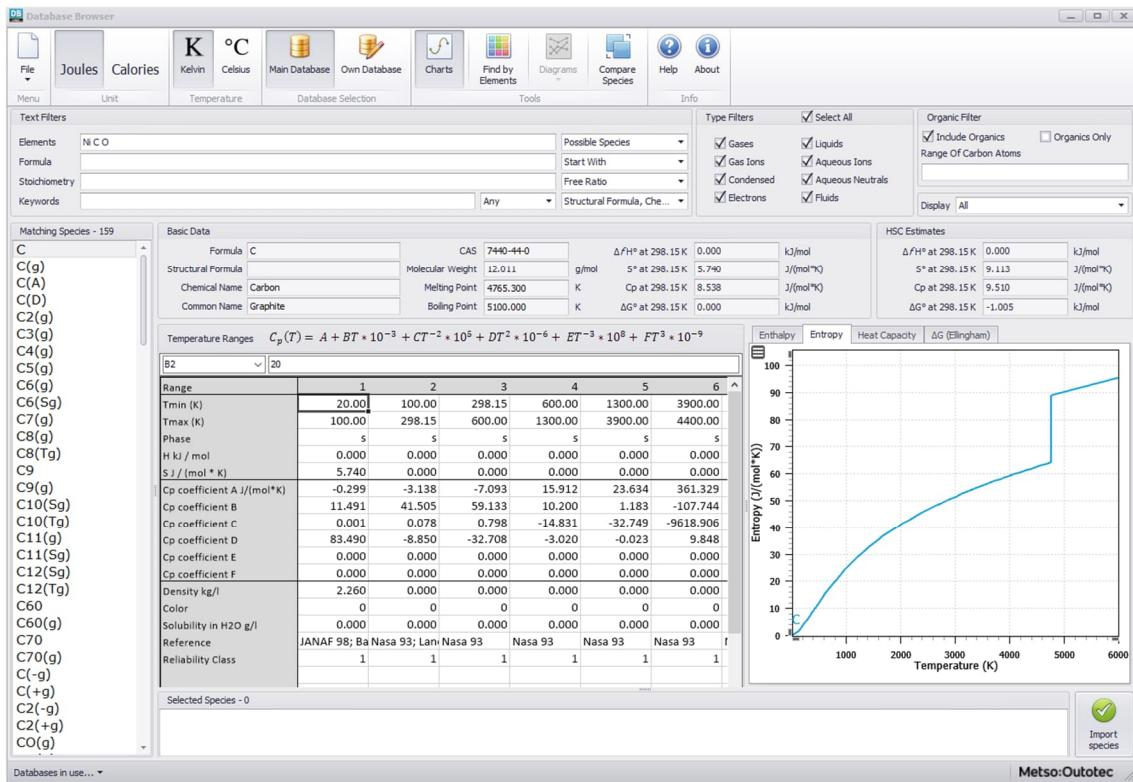

Fig. 3. Specifying the elements of the chemical system.
1. Press **From Elements**. Then specify the elements which are present in users system, see **Fig. 3**. The HSC program will search for all the available species in the database and divide them, as default, into gas, condensed and aqueous phases. The user can then edit this preliminary input table.